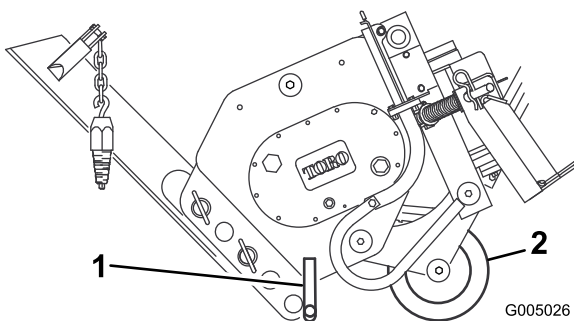

Figure 8
3. Swing the blade up and secure it as illustrated in Figure 8.
4. Tilt the plow forward and lower it to the ground or trailer, with the stand and coultter supporting the weight of the plow (Figure 8).